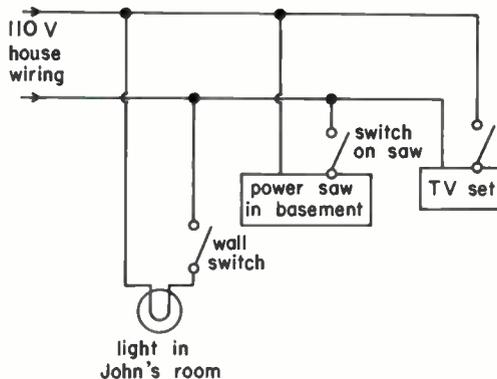

Fig. 6
1. In Fig. 6 a light, a power saw, and a TV set are operating from the 110-V house wiring. The three devices are connected in (*series*) (*parallel*). Turning any one of the devices on or off (*does*) (*doesn't*) affect the operation of the other two devices—which proves that the current drawn by a device is unaffected by other devices connected in (*series*) (*parallel*) with it. Hence, to find the current taken by a component or device connected across a constant-voltage source, such as a battery of the 110-V main, you (*have to consider*) (*don't have to consider*) the current taken by other components or devices in parallel.
2. If the TV set in Fig. 6 has an equivalent resistance of 55Ω , then the set draws a current of _____ amperes. If the power saw has an equivalent resistance of 20Ω , it draws _____ amperes from the 110-V supply. If the lamp filament has a resistance of 110Ω , it draws _____ ampere(s) from the line. The total current drawn from the house line in Fig. 6 when all three devices are in use, therefore, is _____ amperes.